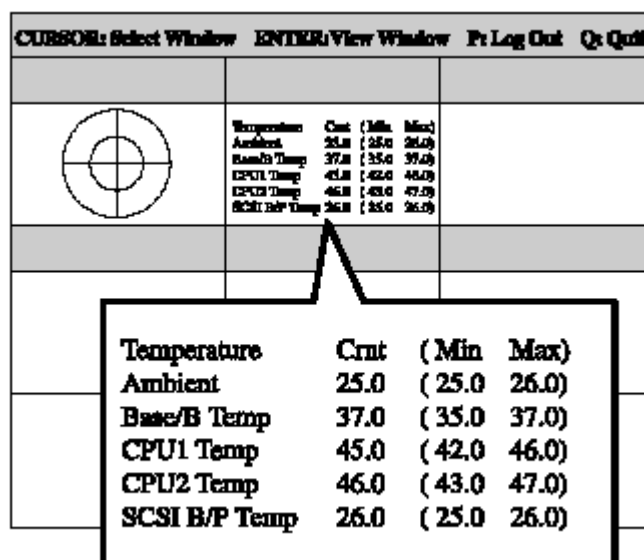

Figure 12. CPU Temperature Display Window
- 3 View the CPU temperature indication display (Figure 12) and ensure the following temperature indications are within range: